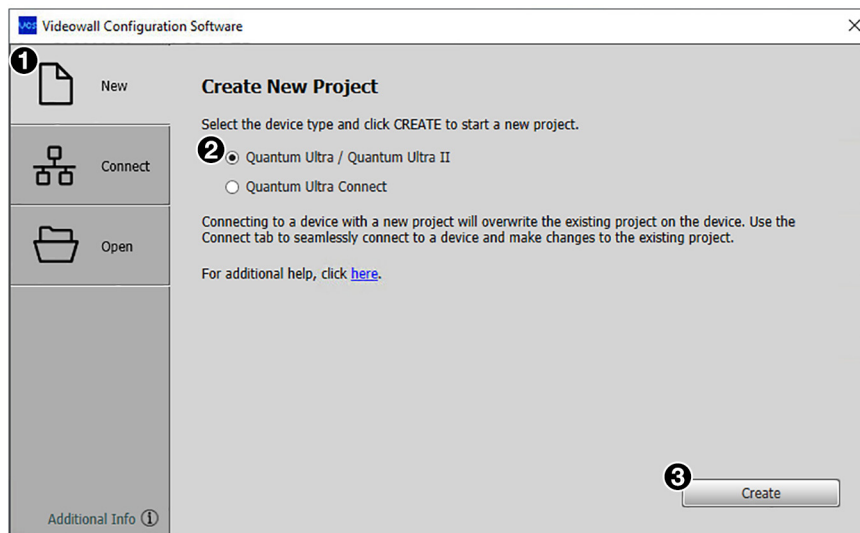

Figure 5. New Tab on the Start Screen
3. On the Start screen, select the **New** tab (see figure 5, ❶).
4. On the Create New Project screen, select the **Quantum Ultra/Quantum Ultra II** radio button (❷), then click **Create** (❸).